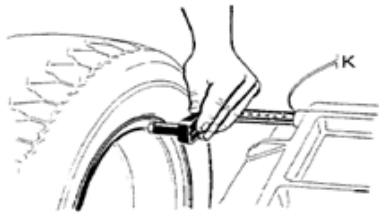

Fig.1
- Set "a" value: move the gauge to measuring position as illustrated as Fig.1, hold the gauge still in position for approx. 4 seconds, successful memorization is given, then return the gauge to position 0.(The value measured in automatic mode appear on the display). Or press  and  and  to change.